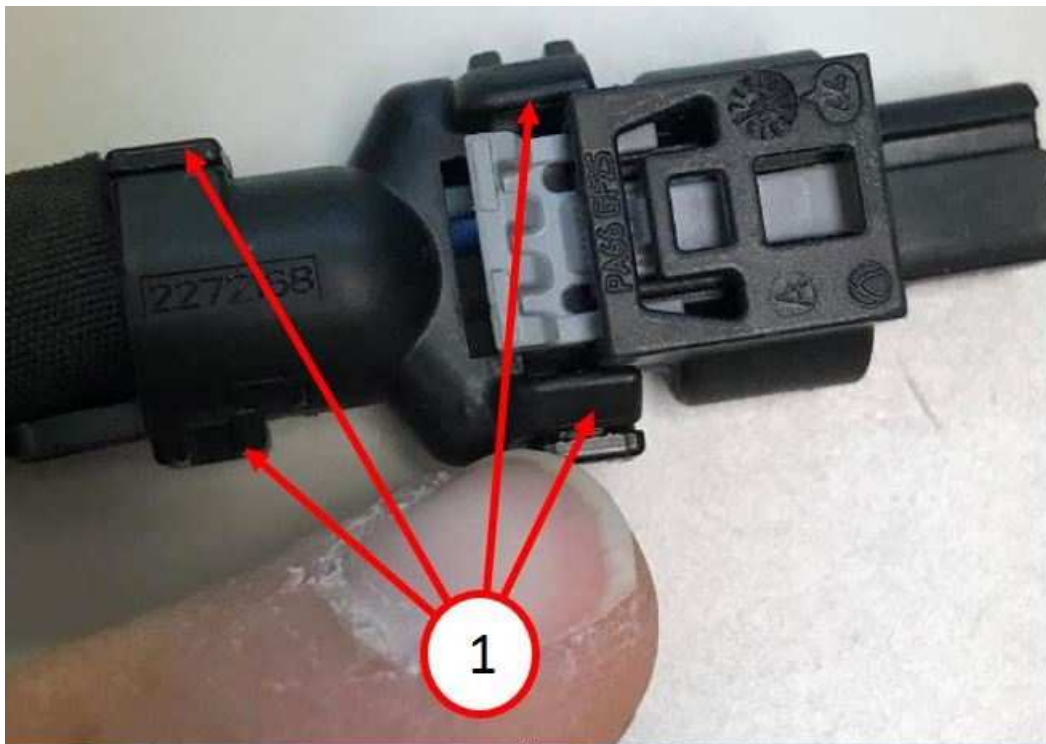

Fig. 2
2. Remove the backshell from the knock sensor (Fig. 2) .